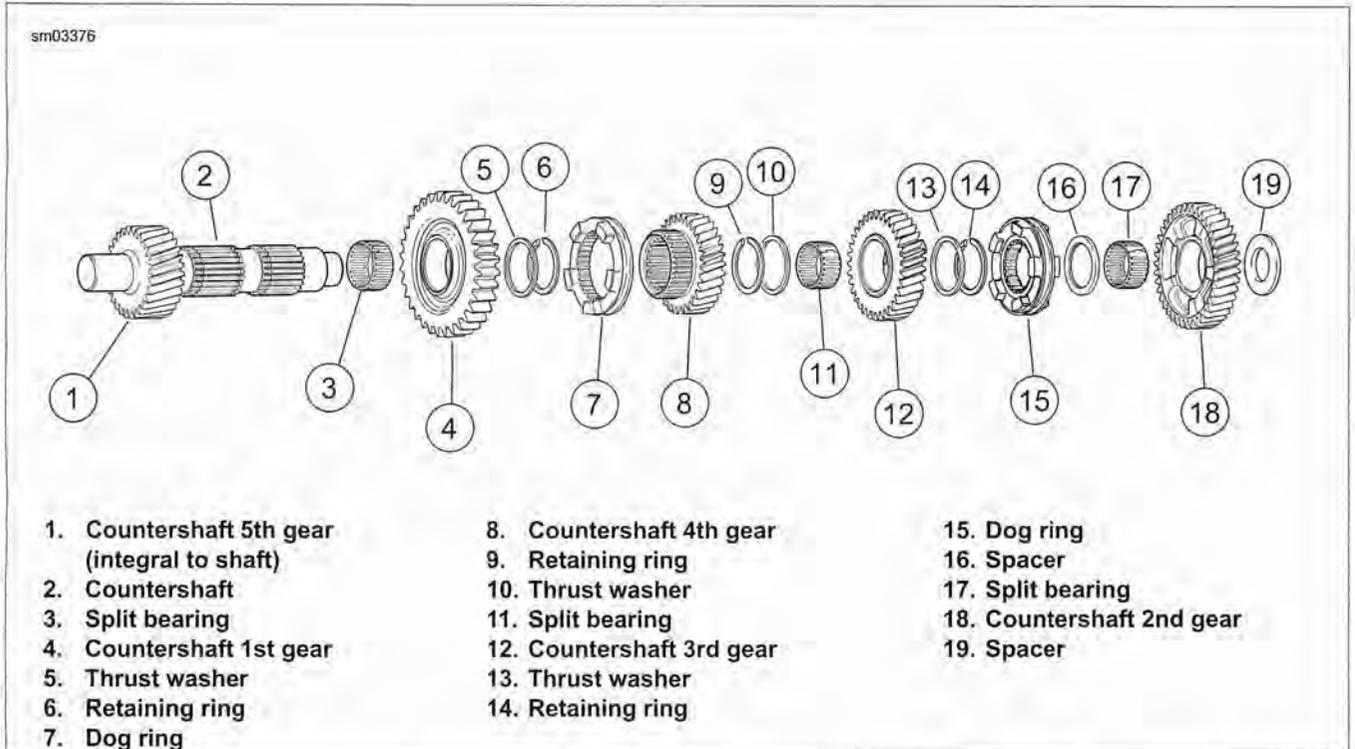

Figure 5-61. Transmission Countershaft Assembly Once Removed from Left Crankcase/Disassembly
- See Figure 5-61. Remove spacer (19) and 2nd gear (18) from the end of the of the countershaft (2). Remove and discard split bearing (17).
- Remove spacer (16).